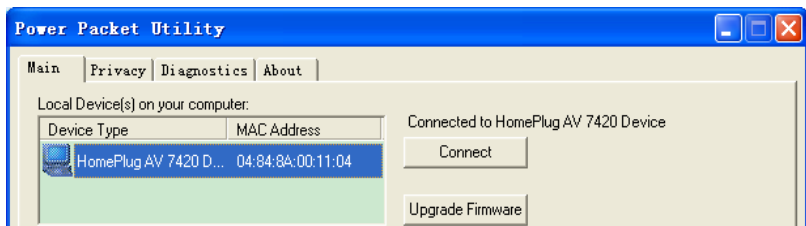

Figure 17 Local device on your computer
- Step 2** Open the Utility. The **Main** tab page displays information about Device C after connection succeeds. See **Figure 17**.